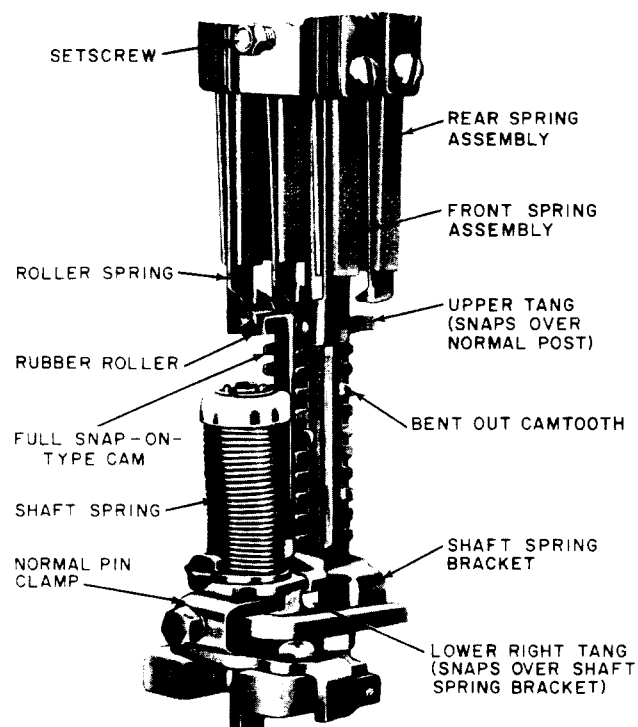
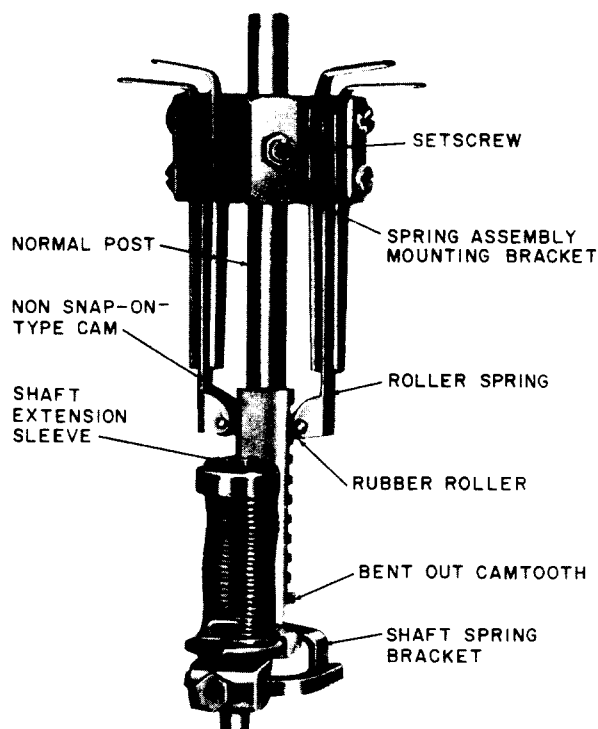
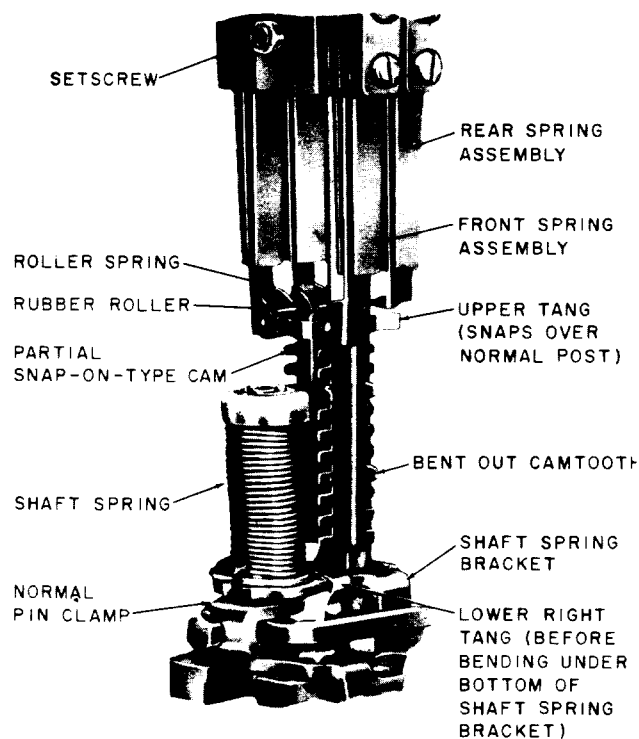

Fig. 11—Normal Post Spring Assembly Having Rubber Rollers Operated by Full Snap-on-Type Cam
Fig. 13—Normal Post Spring Assembly Having Rubber Rollers Operated by Nonsnap-on-Type Cam (Single Cam Illustrated)
Fig. 12—Normal Post Spring Assembly Having Rubber Rollers Operated by Partial Snap-on-Type Cam
Normal Post Spring Assembly With Cam per Fig. 11, 12, 13, and 14
(1) To replace the normal post spring assembly on a switch equipped with a helical shaft spring assembly, it is necessary to replace the shaft spring bracket, normal pin, and normal post spring assembly, and to add a normal post cam in accordance with Fig. 5. Full-, partial-, or nonsnap-on-type cams shown in Fig. 11 through 13 may be used.
(2) Tag and disconnect the leads to the normal post spring assembly. Loosen the normal post spring assembly clamping screw with the 3-inch C screwdriver or the 555A wrench. Lift the spring assembly from the top of the normal post.
(4) If the camteeth are not bent out to operate the normal post springs at the proper levels, bend out the camteeth corresponding to the levels at which the springs are to operate as covered in 3.14(5).
(5) Then mount the normal post cam as covered in 3.14(7) if it is a full snap-on-type cam per Fig. 11; as covered in 3.14(8) if it is a partial snap-on-type cam per Fig. 12; or as covered in 3.14(9) if it is a nonsnap-on-type cam per Fig. 13 and 14.
(6) Mount the new spring assembly on the normal post, placing the assembly so that the springs operate properly. Tighten the assembly mounting screws securely. Connect the leads to the spring terminals. Check all requirements on the normal post spring assembly and associated parts as covered in Section 030-705-703.
(1) To replace a normal post spring assembly on a switch having a cup-type shaft spring assembly, it is necessary to replace the cup spring assembly by a helical shaft spring assembly and to add a normal post cam and normal post spring assembly in accordance with Fig. 5. Full-, partial-, or nonsnap-on-type cam shown in Fig. 11 to 13 may be used.
(2) Tag and disconnect the leads connected to the normal post springs. Remove the assembly as covered in 3.10.
(3) Remove the cup spring assembly, the shaft spring bracket, the normal pin, and the normal pin clamp as described in Section 030-705-802.
(4) If the switch is equipped with a normal post collar, remove and discard it.
(5) Mount the shaft extension sleeve, normal pin clamp, normal pin, shaft spring bracket, and shaft spring in accordance with Section 030-705-802.
(6) If the camteeth are not bent out to operate the normal post springs at the proper levels, bend out the camteeth corresponding to the levels at which the springs are to operate as covered in 3.14(5).
(7) Then mount the normal post cam as covered in 3.14(7) if it is a full snap-on-type cam per Fig. 11; as covered in 3.14(8) if it is a partial snap-on-type cam per Fig. 12; or as covered in 3.14(9) if it is a nonsnap-on-type cam per Fig. 13 and 14.
(8) Mount the new spring assembly on the normal post, placing the assembly so that the springs operate properly. Tighten the assembly mounting screw securely. Connect the leads to the spring terminals. Check all requirements on the normal post spring assembly and associated parts as covered in Section 030-705-703.
(1) To replace a normal post cam, remove the cam as covered in (2) if it is a full snap-on-type cam per Fig. 11; as covered in (3) if it is a partial snap-on-type cam per Fig. 12; or as covered in (4) if it is a nonsnap-on-type cam per Fig. 13 and 14. If the proper teeth on the replacing cam have not been bent out, bend out as covered in (5) the teeth corresponding to the levels at which the normal post springs are to be operated. Mount the replacing cam as covered in (7) if it is a full snap-on-type cam per Fig. 11; as covered in (8) if it is a partial snap-on-type cam per Fig. 12; or as covered in (9) if it is a nonsnap-on-type cam per Fig. 13 and 14.
(2) Full Snap-on-Type Cam per Fig. 11
(3) Partial Snap-on-Type Cam per Fig. 12:
(4) *Nonsnap-on-Type Cam per Fig. 13 and 14*
(6) **General:** If the proper teeth have not been bent out, bend out as covered in (5) teeth corresponding to the levels at which the normal post springs are to be operated. Then proceed as covered in (7), (8), or (9).
(7) *Full Snap-on-Type Cam per Fig. 11*
(8) *Partial Snap-on-Type Cam per Fig. 12:*
(9) *Nonsnap-on-Type Cam per Fig. 13 and 14*